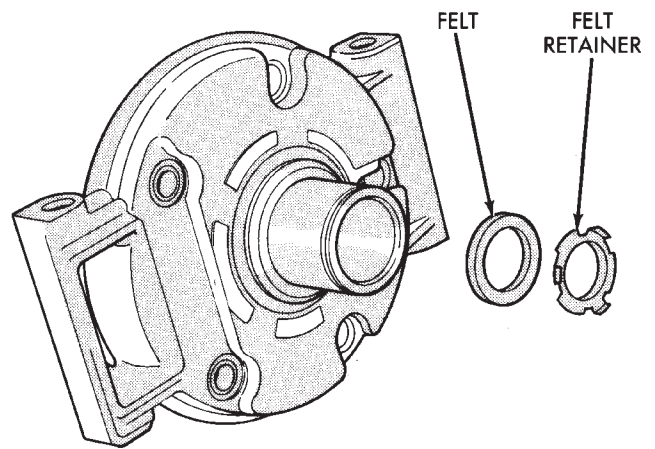

Fig. 11 Removing Felt Retainer and Felt
(7) Pry out the felt retainer and remove felt from front cover (Fig. 11).